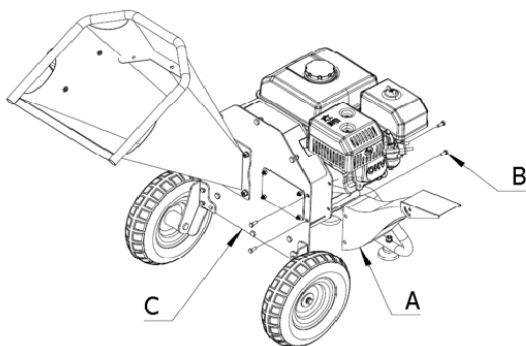

Figure 5
**EN/**Install the discharge hopper (See Figure 5)
1. Position the discharge hopper (A) by aligning the assembly holes of the discharge port and the holes in the box.
2. Fix the guard assembly (A) with the box (C) with four M6 flange bolts (B).